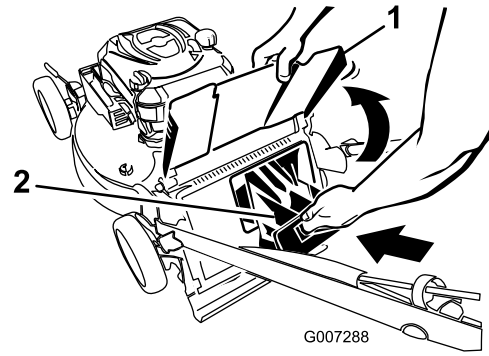

Figure 5
4. Install the rear discharge plug (Figure 5).